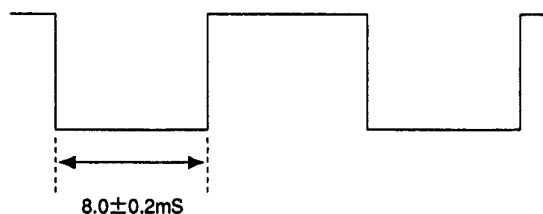

Fig.5-7
- 5) Connect the probe of an oscilloscope to IC502 ⑦ PIN. Adjust **V DELAY** so that the output waveform will be as shown in Fig.5-7.